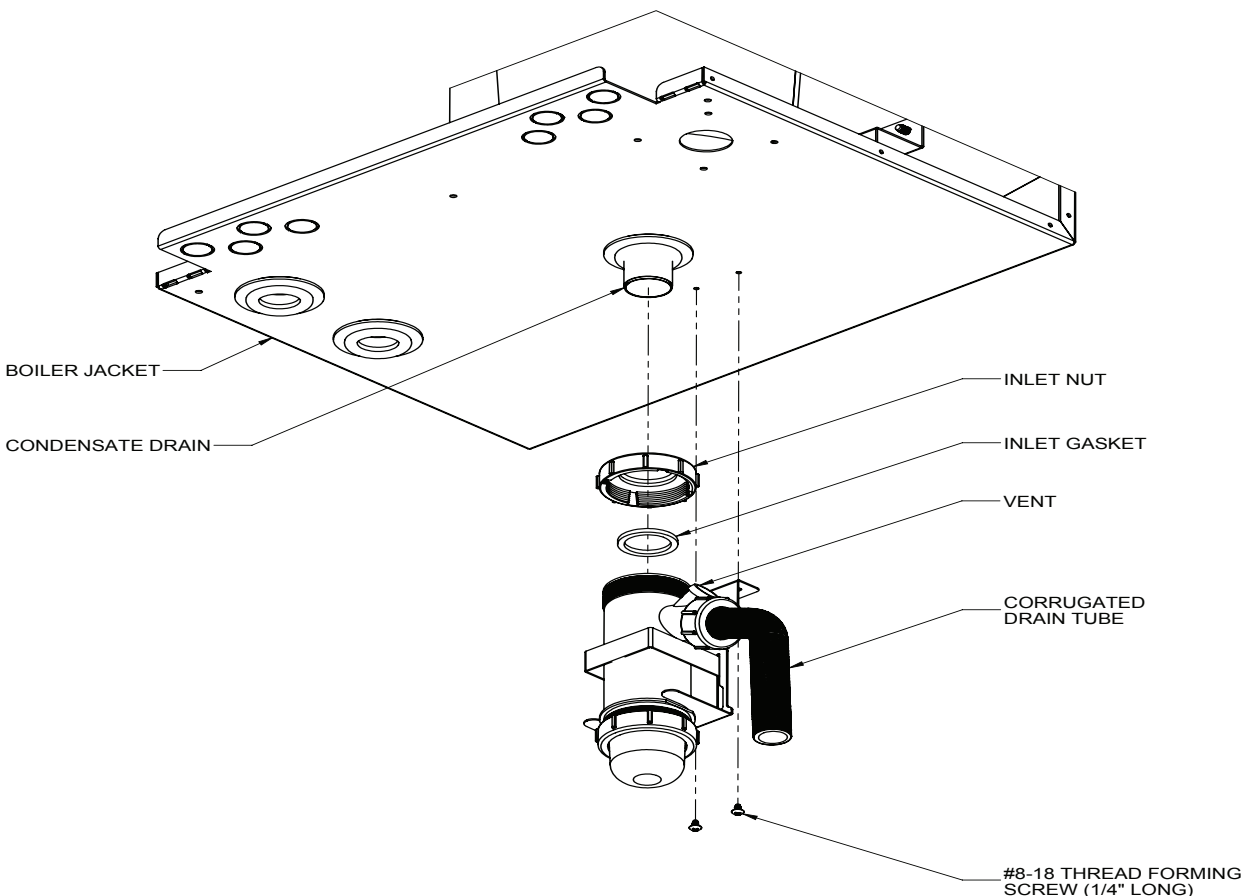

Figure 7.46: Condensate Trap Installation
All condensate which forms in the boiler or vent system passes through the heat exchanger and out of a bottom drain port which is connected to the field-installed condensate trap. This trap allows condensate to drain from the heat exchanger while retaining flue gases in the boiler. This trap is an integral part of the boiler but must be connected to a drain pipe as shown in Figure 7.46. A length of corrugated tubing is supplied with the boiler and is connected to the trap as shown in Figure 7.46. Note the following when disposing of the condensate:
4. If the corrugated condensate drain line must be extended, construct the extension from PVC or CPVC pipe. Insert the hose provided with the boiler into the end of the extension as shown in Figure 7.46.
9. Do not attempt to move the trap from the location shown in Figure 7.46. Do not attempt to substitute another trap for the one provided with the boiler.